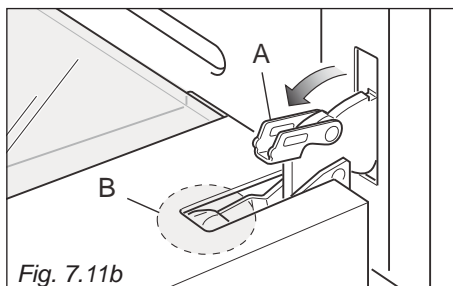

Fig. 7.11b
- Open the lever "A" completely on the left and right hinges (fig. 7.11b).
- Gently close the door (until left and right hinge levers "A" are hooked to part "B" of the door (figs. 7.11b, 7.11c).